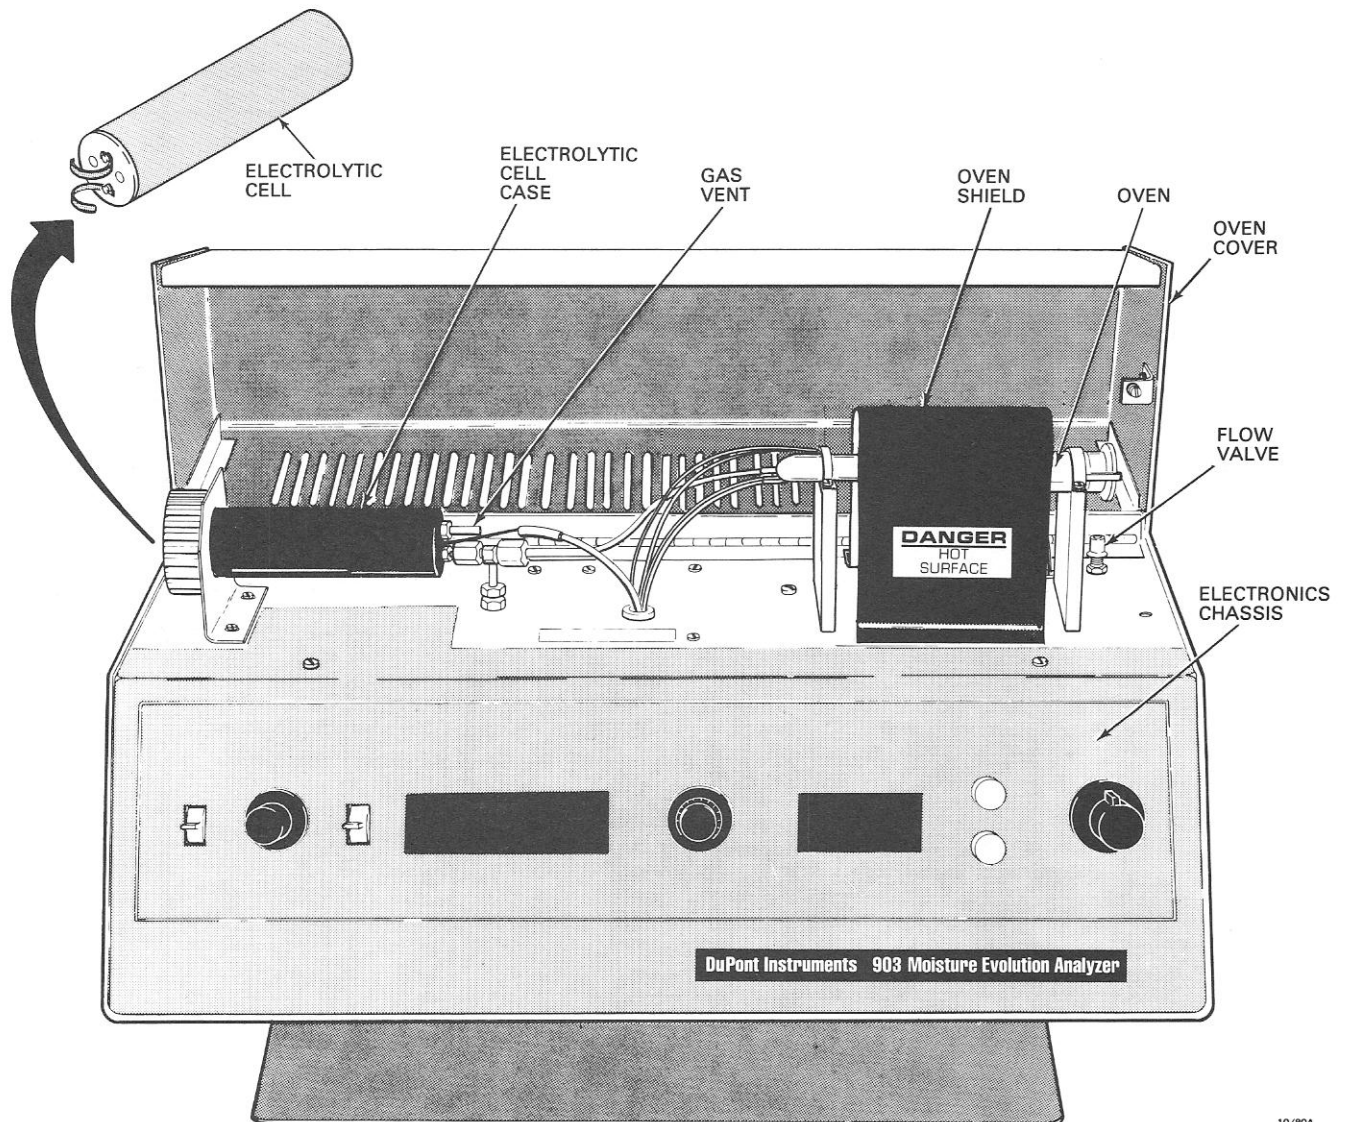

Figure 1-2. Moisture Analyzer, Oven Cover Open.
The moisture analyzer (figure 1-2) is a compact unit for bench or table-top mounting containing electronic control circuits, an electrolytic cell, and an
(1) Lift the oven cover as shown in figure 1-2.